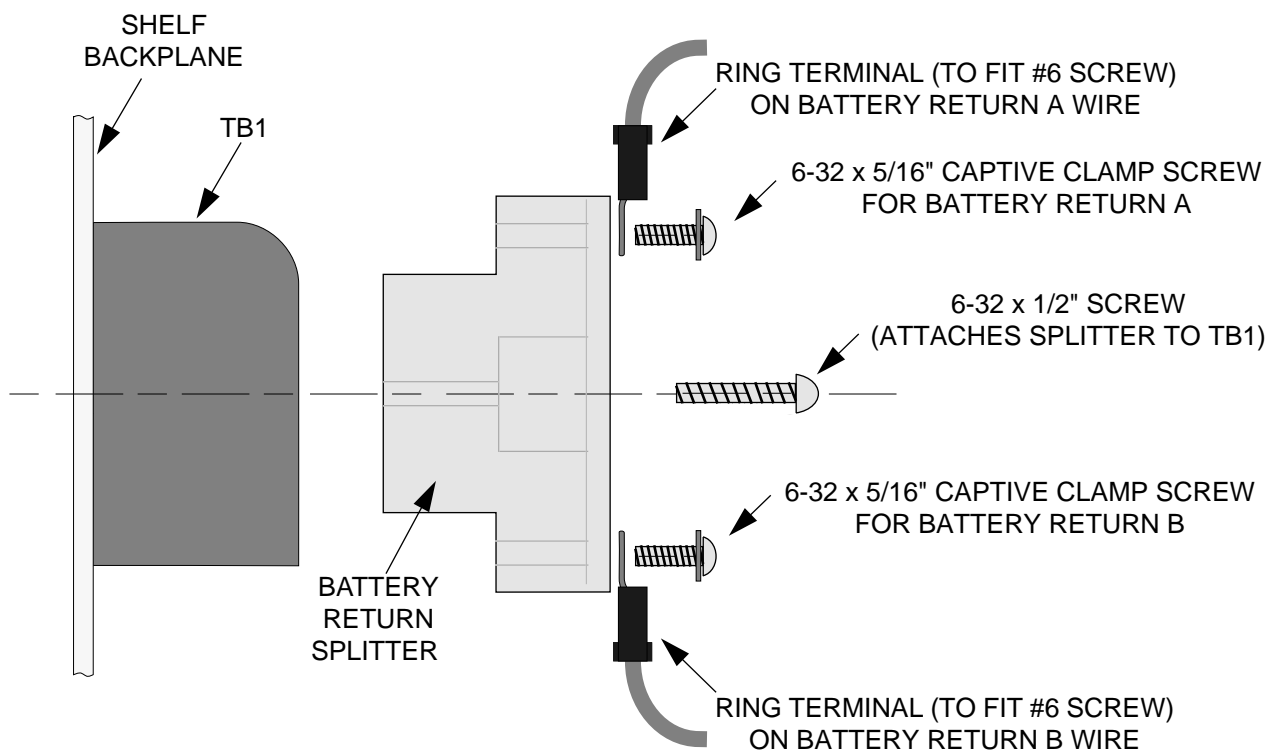

Figure 15. Battery Return Splitter (Side View)
2. Refer to Figure 15, and align the splitter over the terminal. Using the supplied 6-32"x 1/2" screw, connect the splitter to the terminal.